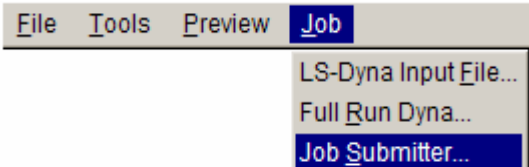

Figure 4.25 Job menu
- 2. Click **Job→Job Submitter...** in the menu bar. See Figure 4.25.